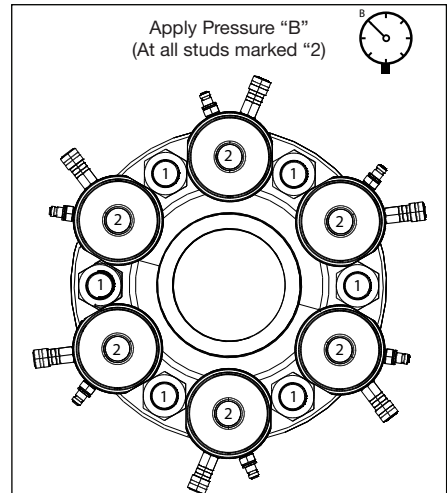

FIGURE 14, TENSIONER ARRANGEMENT SECOND PASS - TYPICAL (50% TENSIONER COVERAGE)
- Move the tensioners to the remaining 50% of the bolts (i.e. all bolts numbered “2”). See Figure 14.